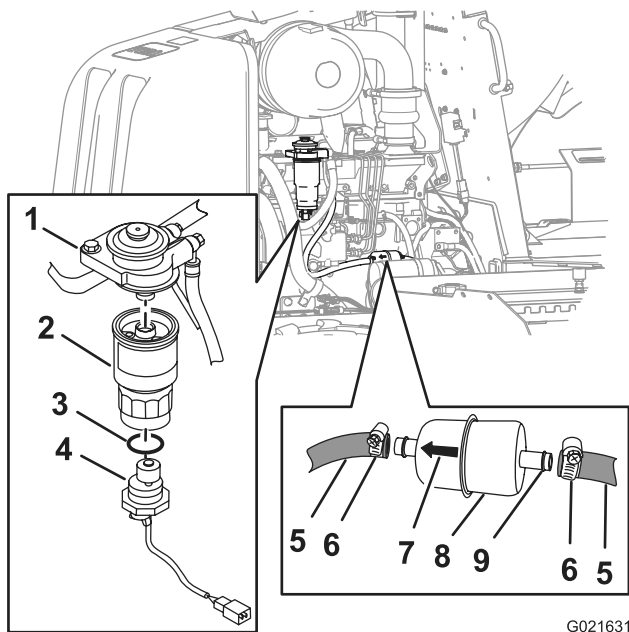

Figure 92
4. Loosen the hose clamps and separate the primary fuel filter from the fuel hoses (Figure 92).
5. Align the new primary fuel filter to the hoses with the arrow printed on the filter pointing forward (Figure 92).
6. Slip the hoses over the hose fitting of the primary fuel filter and tighten the hose clamps (Figure 92).
- C. Firmly grasp the secondary-fuel-filter element, and rotate the water sensor counterclockwise, and remove the water sensor (Figure 92).
- D. Firmly grasp the secondary-fuel-filter element, and rotate it counterclockwise, and remove the filter from the filter adapter (Figure 92).
- Align the new secondary-filter element to the filter adapter (Figure 92).
- Align the new O-ring over the water sensor (Figure 92).
- Align the water sensor to the bottom of the secondary, fuel filter (Figure 92).
- Firmly grasp the secondary-filter element and rotate the water sensor clockwise until hand-tight (Figure 92).